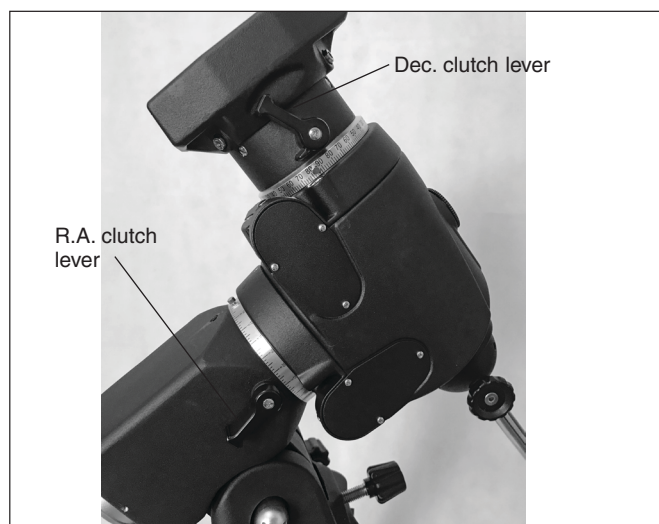

Figure 11. The R.A. and Dec clutch levers
1. Keeping one hand on the telescope optical tube, loosen the R.A. clutch lever (**Figure 11**). Make sure the Dec. clutch lever is locked, for now. The telescope should now be able to rotate freely about the right ascension axis. Rotate it until the counterweight shaft is parallel to the ground (i.e., horizontal).
Loosen the clutch levers on the R.A. and Dec axes to rotate the mount by hand (**Figure 11**). Both levers should be tightened for electronic operation of the mount via the hand controller.